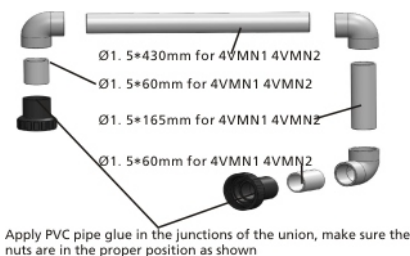
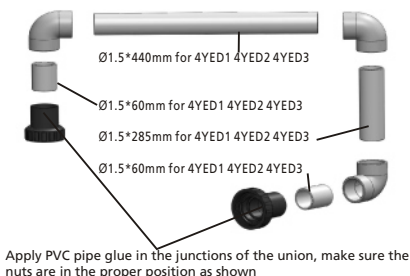

Figure 3
Figure 4
2. Use any PVC pipe glue (not included) to fix the unions and pipe nuts to the pipe set, make sure the nut is in the correction position, for detail please refer to figure 3 ana figure 4